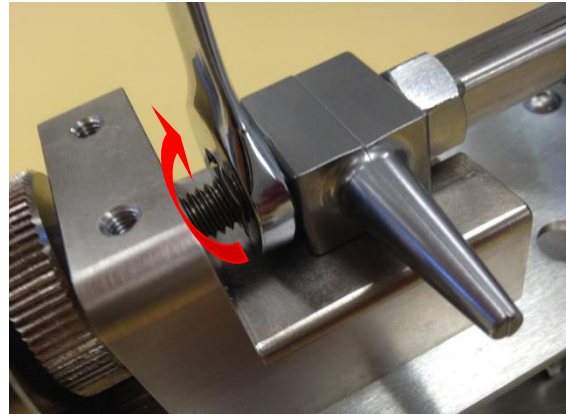

Figure 3.3.3
- Using a 9/16 open end wrench break the lower jaw nut loose. *Figure 3.3.3*